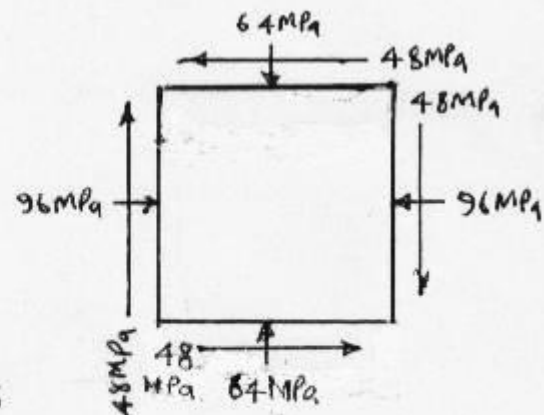

fig.12 Q5(c)
- (c) A point in two dimensional stressed body is shown in **fig. 12**. Determine the magnitudes and directions of principal stresses, using analytical method or by Mohr circle diagram.